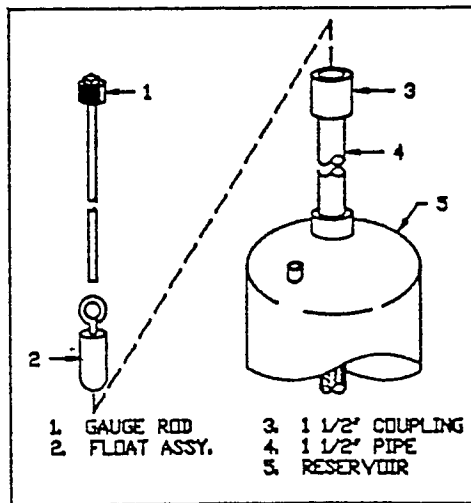
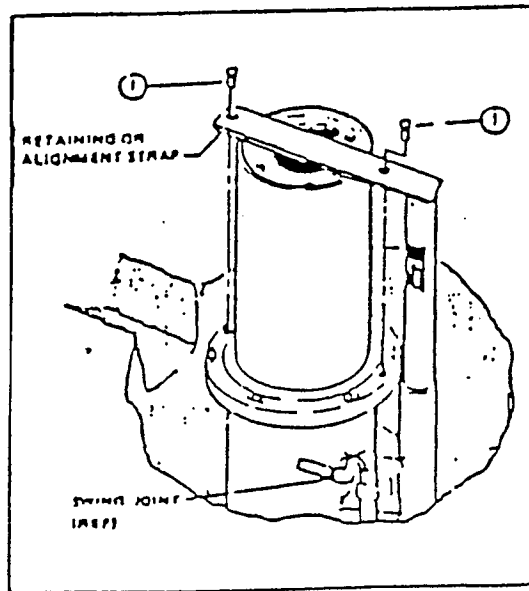
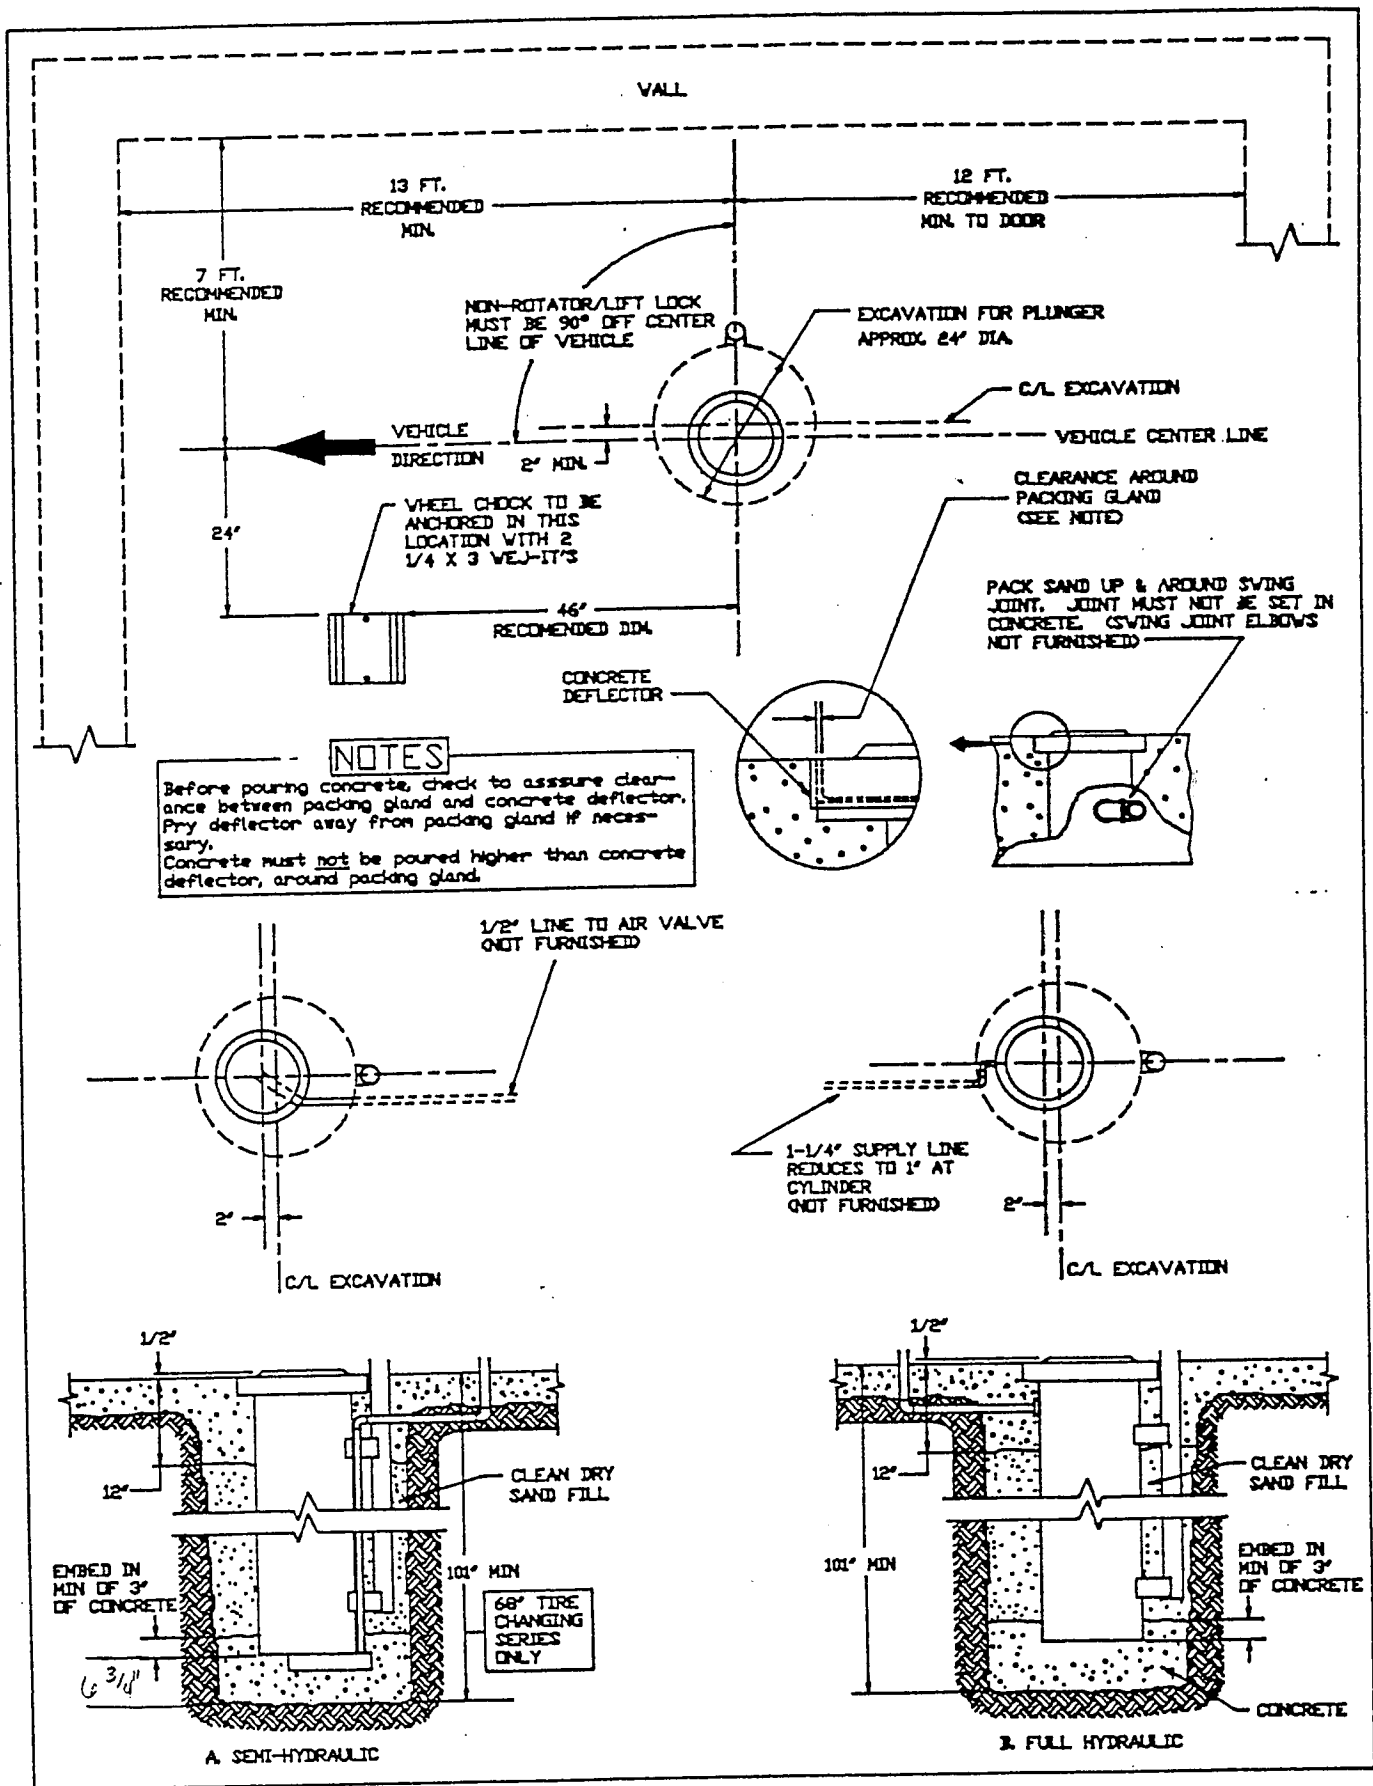

Fig. 6 Oil Reservoir Components
Fig. 7 Testing Arrangement
Fig. 1 Tube & Plunger Installation
Locate lift to allow plenty of working room on all sides. Allow room for work benches at front of bay aisles, lubrication equipment or other obstruction. Check overhead clearance, ordinarily 12 feet is ample for automobiles. Observe the recommended minimums in Figure 1.
2. Using a chain hoist and tripod, fork lift, crane, etc. for lifting; lower plunger assembly into excavation until top surface of packing gland is even with finished floor and align with previously determined center lines. See Figure 1. Rotate the plunger assembly so that the NON-ROTATING/LIFT LOCK LEG LIES 90 DEGREES TO CENTER LINE. See Figures 1 and 2.
3. Plumb plunger assembly with 4 ft. level on side of casing, being careful to plumb in both directions. After making the necessary adjustments, carefully pour small amounts of concrete around sides of assembly base. See Figure 1. Work concrete under base of assembly and recheck for plumb and location. Continue to suspend plunger assembly by chain until concrete around base has set up.
4. After concrete has set up, add 3 or 4 ft. of clean sand and recheck for plumb. Then remove chains and tripod or crane, etc. and complete back fill operations with clean sand. See Figure 1. When back fill is complete, assemble piping to cylinder, see semi-hydraulic in Figure 1, and complete under floor piping (para. 5). (When finishing floor, maintain the minimum fall away from lift required for drainage on that portion of the floor upon which lift superstructure rests.)
5b. Air-oil Full Hydraulic: Install reservoir and pipe as shown in Figure 1 (Fill with oil as in para. 6b before inserting float assembly item 2 Figure 6). Install wall or floor controls and connect piping between plunger assembly, reservoir and control. See Figures 1 & 5. Connect 1/2" air supply line to air valve.
6b. **Air-Oil Hydraulic Lifts:** Place air control in EXHAUST position. With gauge rod assembly (1) and float assembly (2) removed, refer to Fig. 6, fill reservoir (5) with oil (a portion of the approx. 45 gal. required cannot be added until the completion of step 8). Insert float assembly (2). Insert and tighten gauge rod assembly (1).
7. Refer to Figure 7. The two 1/2" x 1 1/2" long capscrews (item 1) which bolt into packing gland MUST BE REMOVED. Remove retaining strap. NEVER raise plunger until non-rotating/lift lock leg lies 90 degrees to center line. See Figures 1 and 2.
10. Lower plunger and leave strap attached until superstructure is installed. Complete any backfill requirements that may be needed around casing and/or reservoir. Pour floor to designed level, when finishing, maintain the minimum fall away from lift required for drainage on that portion of floor on which the superstructure rests. Refer to Figures 1, 4 & 5.
To raise, make sure superstructure with lock leg is properly attached. If superstructure is not yet installed, retaining strap must be in place as in Figure 7.